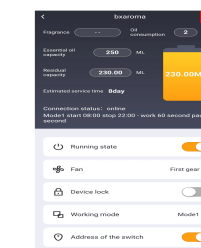

Figure 19
- ② In the control interface, click the icon "≡" (Figure 19).